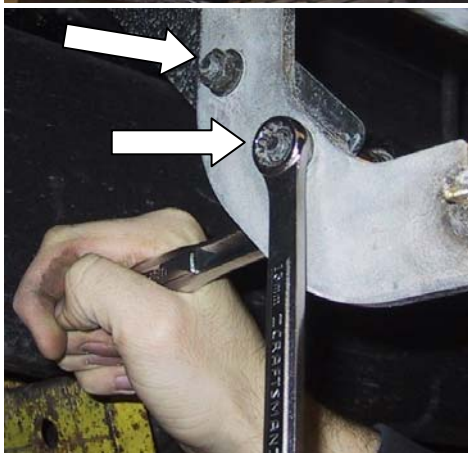

FIG 1-6
- (e) Attach the front support bracket to the front main bracket using two (2) 8mm x 25mm Flange bolts and two (2) 8mm hex head flange nuts. (fig 1-6)